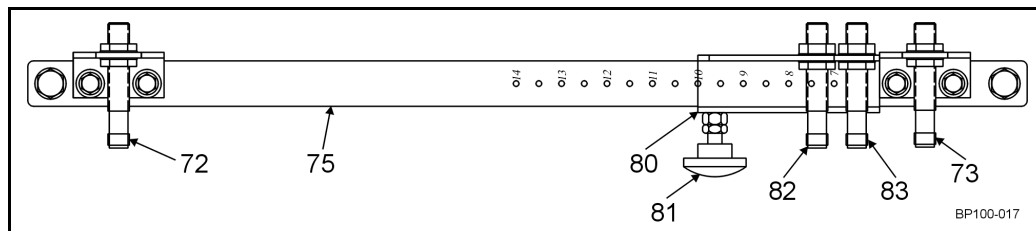

Figure 5 - Optional Dual Width Control Mechanism
2. To set narrow width, loosen knob (Figure 5, item 81) and move narrow width switch (PX5) (item 83) along slide plate (item 75) to desired setting.